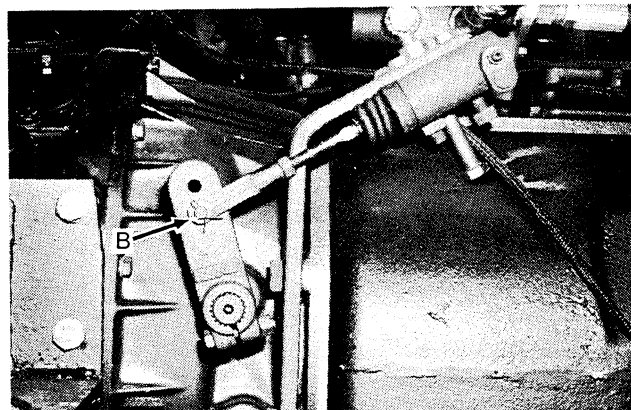

Figure 3:
5. Remove the pin from the slave cylinder rod clevis (B-Fig. 3).
When used with Fuller Transmissions, it must be mounted with small facing diameter toward transmission (see Figure 3).